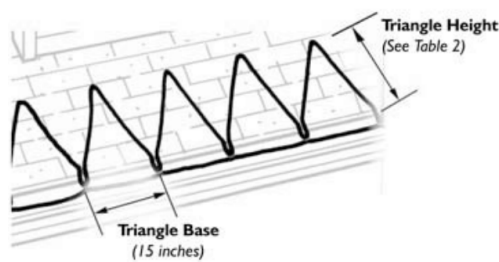

Figure 4. Triangle pattern along roofline
• Pattern for the roofline: Cable laid along the roofline is arranged in a triangular pattern (see Figure 4). The cable must extend above the overhang into the warm section of the roof. To determine the height of the triangles, measure the depth of the overhang. The triangle heights are measured by the number of shingle rows from the roof edge (based on the standard 51/2 inch tab shingles). Using Table 2, determine the height of each triangle. Using this method, the triangles will extend at least one shingle row (51/2 inches) into the warm roof area. The base of each triangle is always 15 inches wide. If you have nonstandard shingles (not 51/2 inches wide) contact Warmup for assistance.